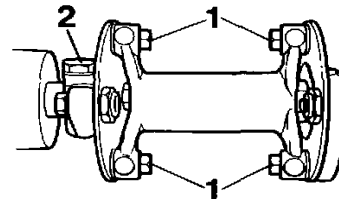

Fig. 123.
1. Remove the pump coupling shield plate. Remove the intermediate shaft bolts (4x), (1, fig. 123). Note! Do not remove the bolts which hold the drive flange discs on the drive flanges since this can alter the injection pump setting. Do not turn the injection pump or the engine.
2. Loosen the clamp screw (2) and remove the drive flange and key, if fitted, from the drive shaft.